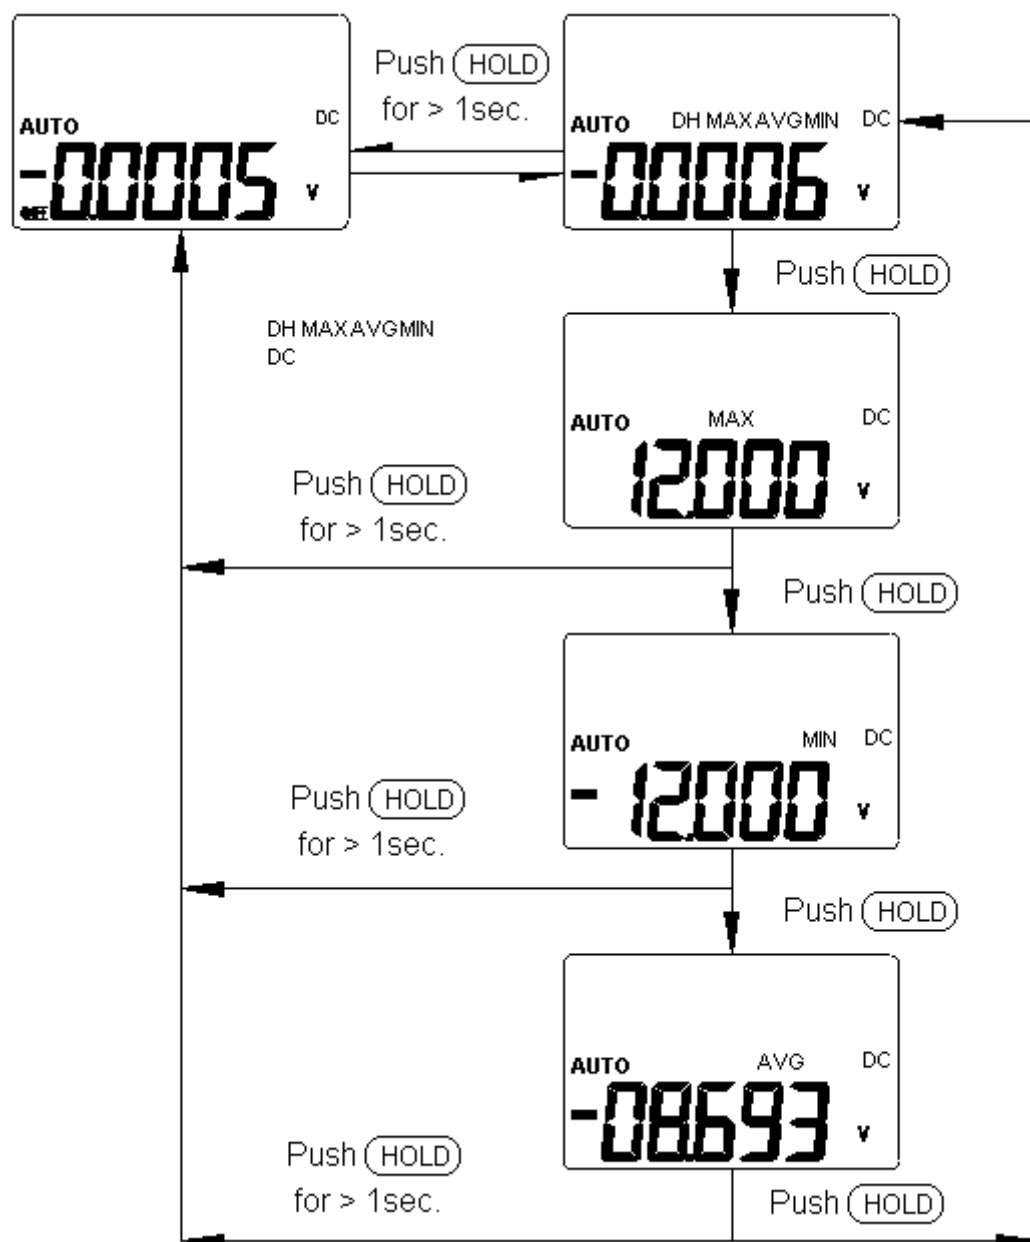

Figure- 32. Display of Dynamic Recording
3. Press this button momentarily to cycle through maximum, minimum, average and present readings. The **MAX**, **MIN**, **AVG** or **MAX AVG MIN** sign will be lit respectively to indicate which value is being displayed. See **Figure-32**.